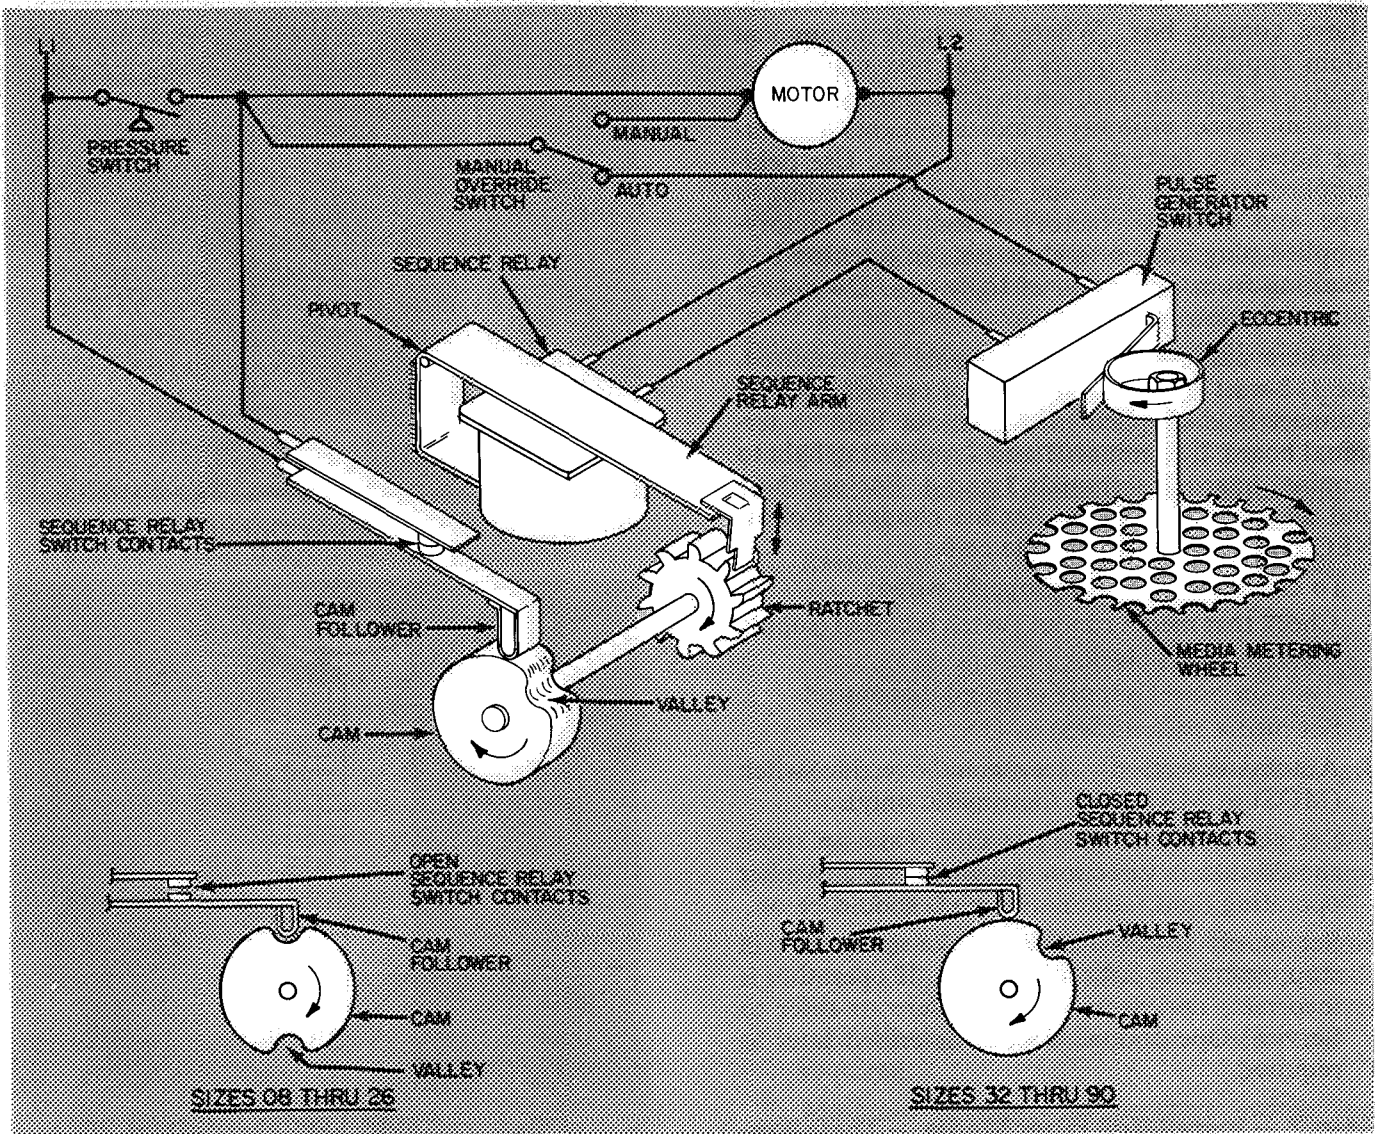

Fig. 6 — Pulse Generator Assembly,
**On-Off Switch (SW)** — Power switch. Controls all power to motor and control circuit (DPST).
**Terminal Board (TB)** — Provides quick-connect terminals for indicator lights or other field-connected components.
**Pulse Generator Assembly (Fig. 6)** — Consists of media metering wheel, pulse generator switch and sequence relay. Except for making sure that media metering wheel tension against media is sufficient to turn wheel as media passes by, little or no service can be performed beyond keeping media metering wheel and shaft free of lint and making sure that electrical connections are intact. The assembly functions as follows: